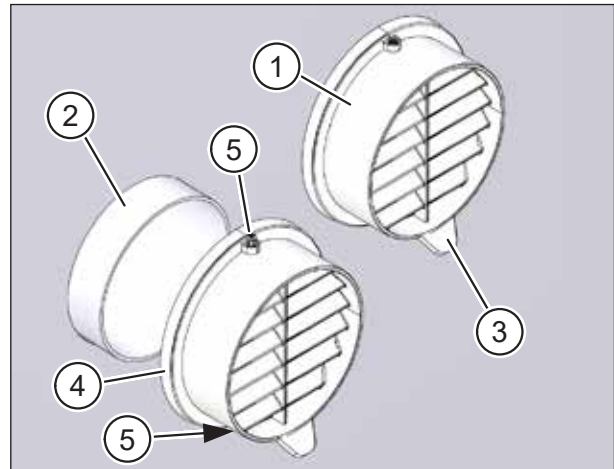

Fig. 22: Attaching the outer wall terminals
- ▶ Carefully push the outer wall terminals (item 1 in Fig. 22) onto the ventilation pipes (item 2 in Fig. 22). Be careful not to damage the seals.
- ▶ Direct the drip edges (item 3 in Fig. 22) downwards.
- ▶ Press each outer wall terminal against the outer wall so that the plastic ring (item 4 in Fig. 22) lies flat against the outer wall. Hold the outer wall terminal in this position.
- ▶ Carefully screw the upper and lower Torx screws (item 5 in Fig. 22) in as far as they will go. They will self-tap into the ventilation pipes, thus fixing the outer wall terminal in position.